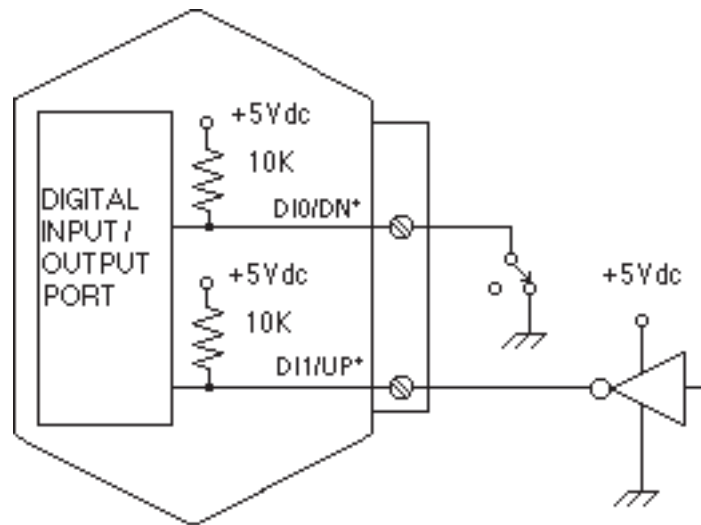

Figure 6.1 Digital Inputs.
The inputs are protected to voltages up to $\pm 30\text{V}$ and are normally pulled up to the logic "1" condition (see Figure 6.1). Digital inputs can be read with the Digital Input (DI) command. Voltage inputs less than 1V are read back as '0'. Signals greater than 3.5V are read as '1'.